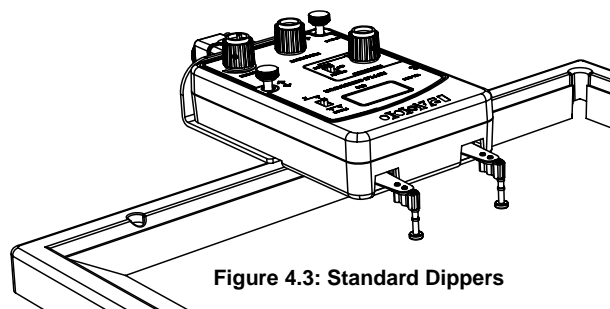

Figure 4.3: Standard Dippers
2. Remove the straight barriers from the tank and replace the plane wave dipper in the ripple arms with two standard dippers (see Figure 4.3). Adjust the ripple generator so that the two standard dippers barely touch the surface of the water.